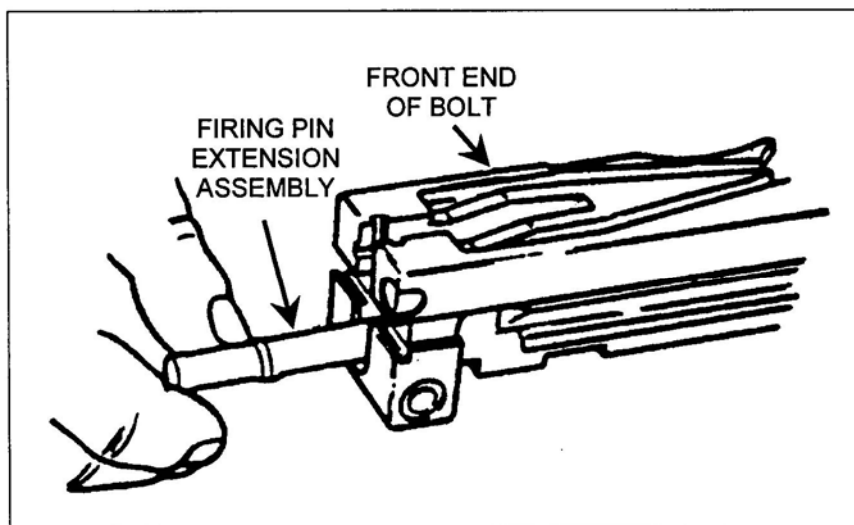

Figure 15. Removal of the firing pin extension assembly.
- (h) Tip the front end of the bolt upward and remove the firing pin extension assembly (Figure 15).